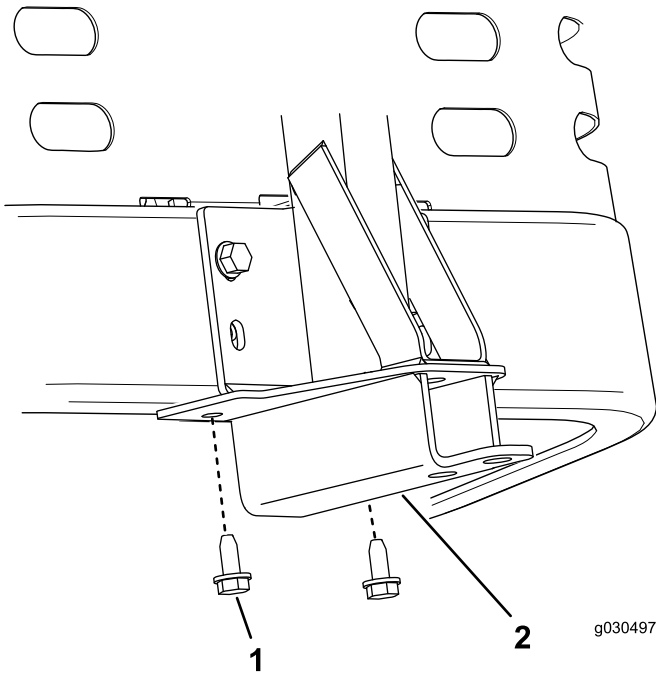

Figure 7
2. Secure the pivot frame to the bottom of the machine frame using 2 self-tapping screws (5/16 x 3/4 inch) as shown in Figure 7.